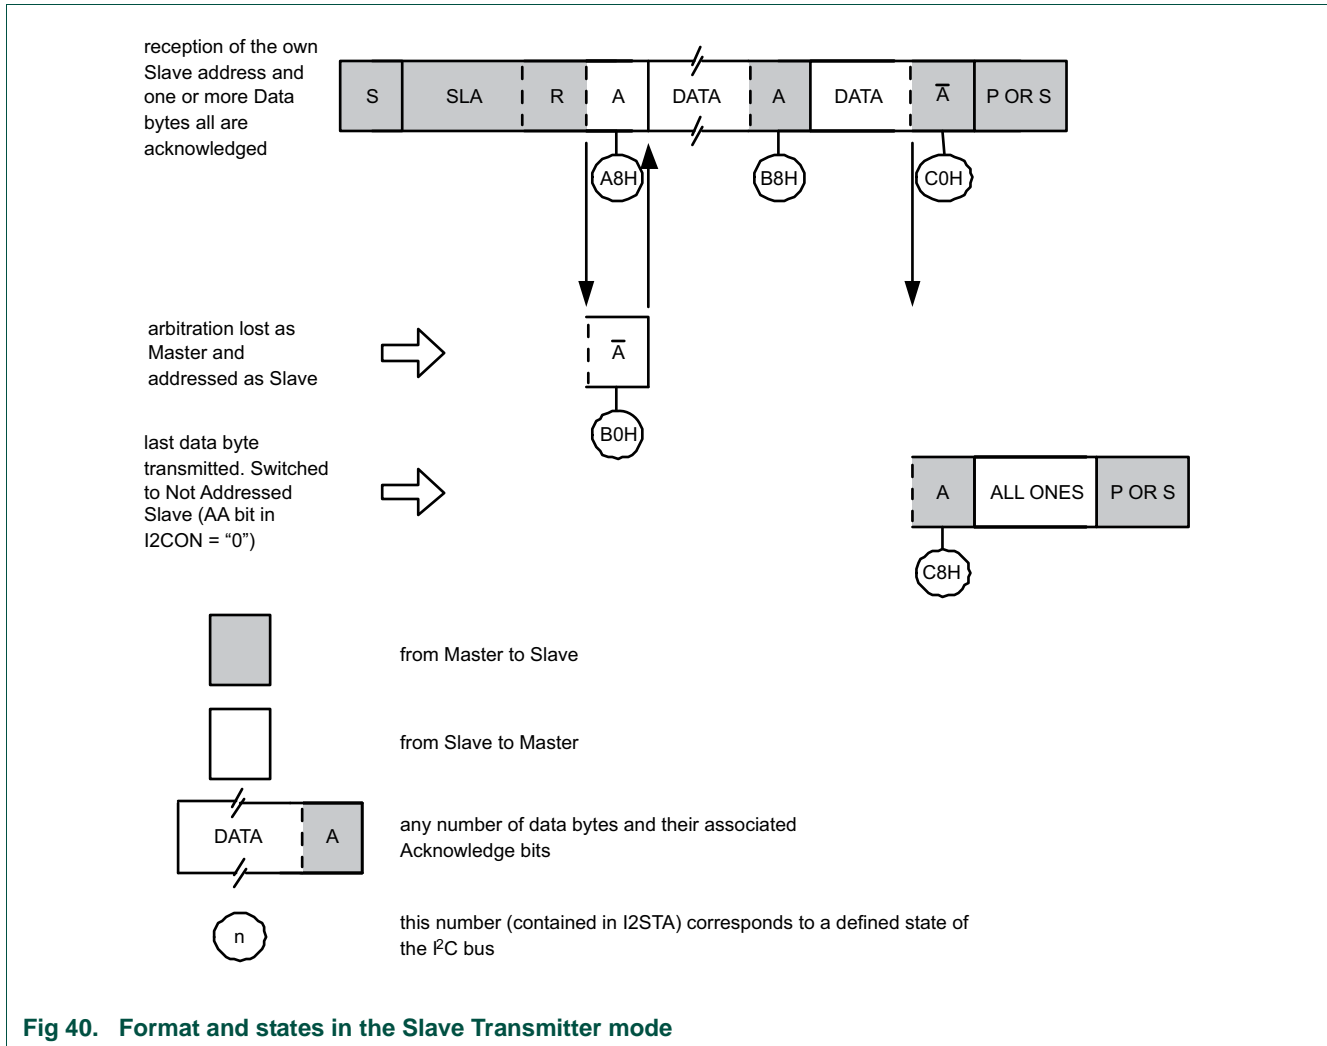

Fig 40. Format and states in the Slave Transmitter mode
In the slave transmitter mode, a number of data bytes are transmitted to a master receiver (see Figure 40). Data transfer is initialized as in the slave receiver mode. When ADR and CON have been initialized, the I²C block waits until it is addressed by its own slave address followed by the data direction bit which must be “1” (R) for the I²C block to operate in the slave transmitter mode. After its own slave address and the R bit have been received, the serial interrupt flag (SI) is set and a valid status code can be read from STAT. This status code is used to vector to a state service routine, and the appropriate action to be taken for each of these status codes is detailed in Table 214. The slave transmitter mode may also be entered if arbitration is lost while the I²C block is in the master mode (see state 0xB0).